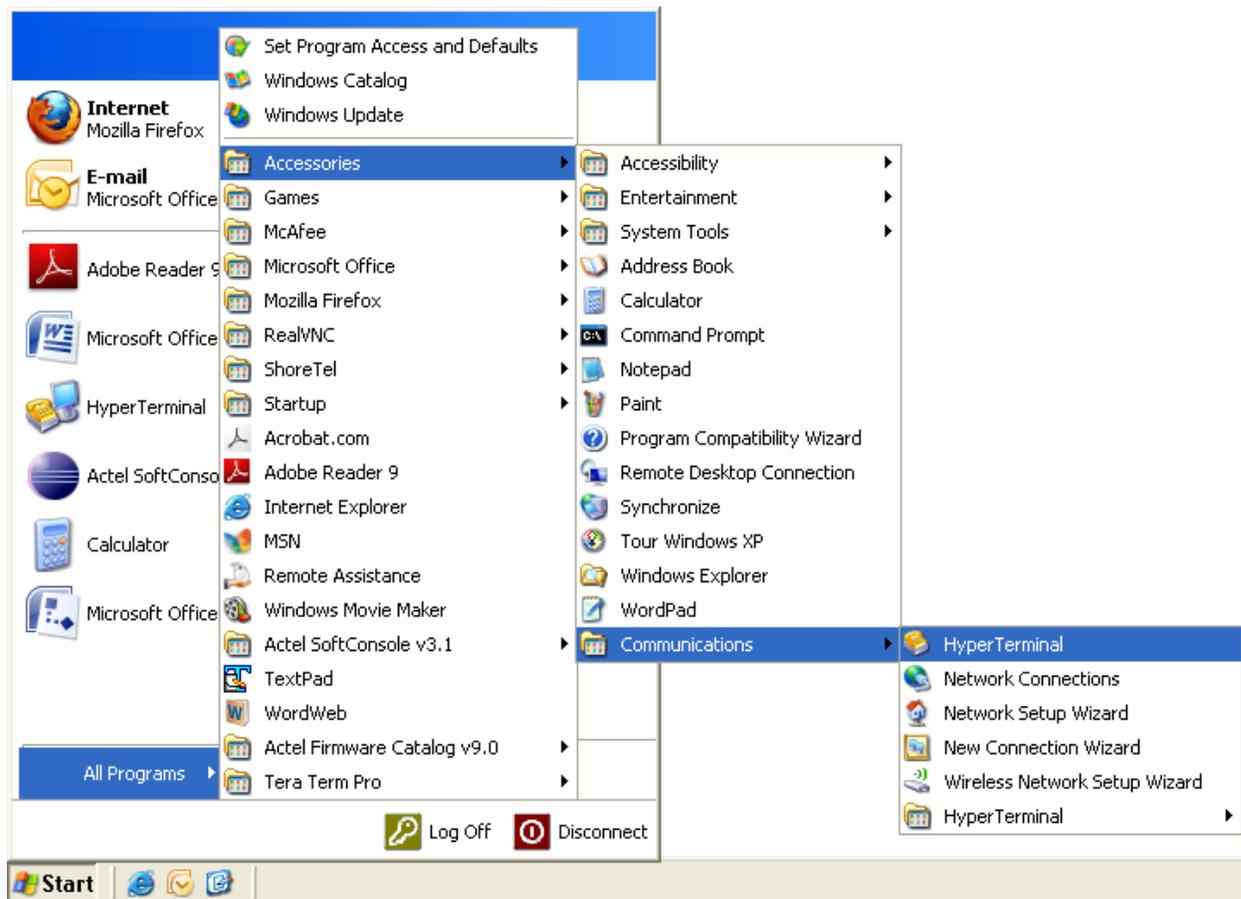

Figure 1: Invoking the HyperTerminal
1. Click the Windows **Start** menu. Select **All Programs > Accessories > Communications** and click the **HyperTerminal Program** (Figure 1). This opens HyperTerminal.